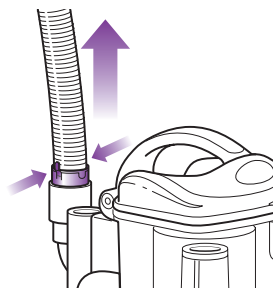

Fig. 28
- Detach the stretch hose from the back of the portable *Lift-Away*® canister by squeezing the tabs together and pulling up. (**Fig. 28**) Straighten out the hose and look inside for blockages.